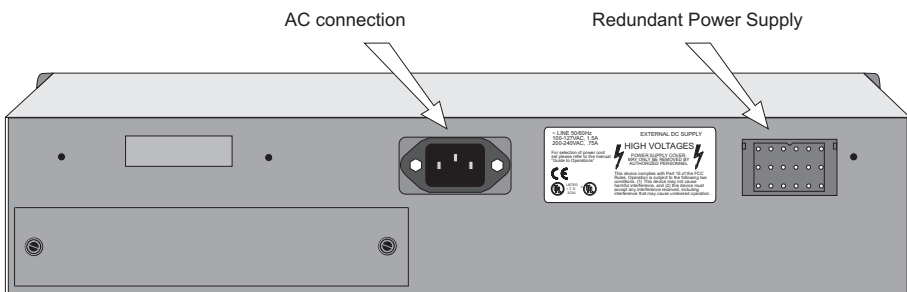

Figure 8. The Back Panel
2. Using a power cable that complies with national regulations, plug the female end of the cable into the AC power connector on the back panel of the switch (see Figure 8).